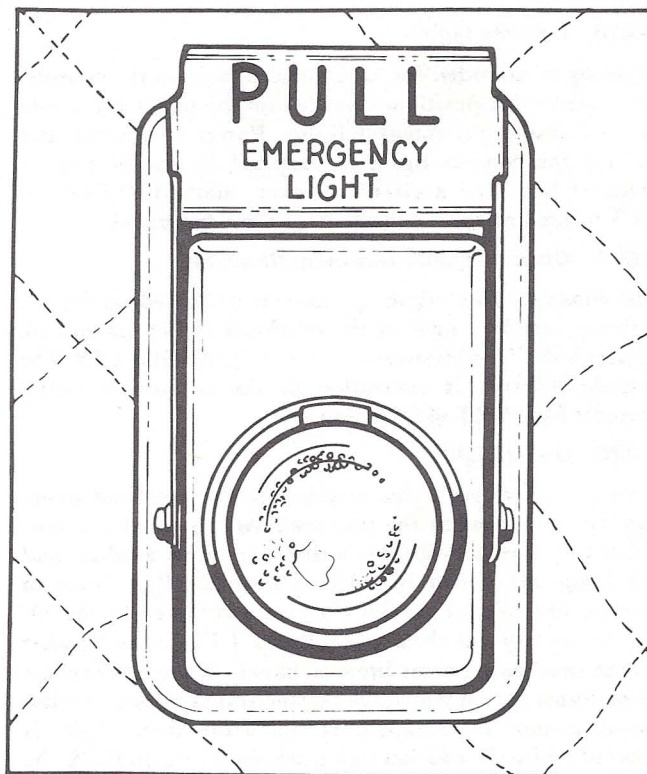

Figure 2-49. Emergency Exit Light
Three emergency exit lights are located in the cargo compartment close to each of the three primary emergency exits (figure 2-48): the main cabin door (3), the emergency exit opposite the main cabin door, and the ramp emergency exit (8). The lights (figure 2-49) come on whenever a loss of power on the battery bus occurs or during a crash landing when $3.5g \pm 0.5$ are exceeded as sensed by an inertia switch. The lights may also be used as portable lamps by